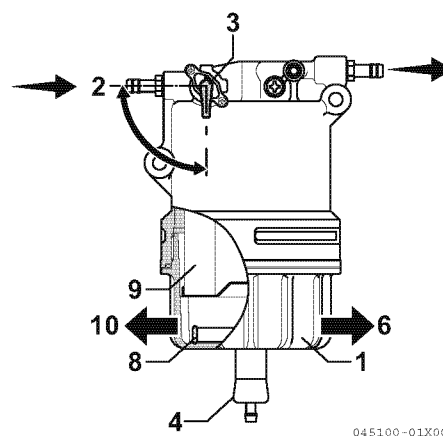

Figure 12
1. Position an approved container under the cup (1, **Figure 12**) of the water separator to collect the contaminants.
2. Close the fuel valve (3, **Figure 12**) by turning it to (2, **Figure 12**) position.
3. Loosen the drain valve (4, **Figure 12**) and remove the fuel oil and mixed substance. See *Drain water separator on page 74*.
4. Turn the cup (1, **Figure 12**) to the left (10, **Figure 12**) and remove from the bracket. If it comes with a drain sensor, remove the cable in advance.
6. Remove the float ring (8, **Figure 12**) from the cup. If it comes with a drain sensor, there is not float ring. Move the drain inside the cup to the specified container, and dispose with a predetermined method.
11. Attach the bracket in the cup. Turn to the right (6, **Figure 12**) with a torque of 27 - 33 N·m (2.8 - 3.4 kgf·m). Always tighten with your hand.
13. Open the fuel valve (3, **Figure 12**).